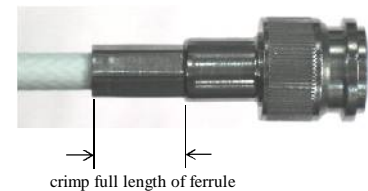

Figure 6 Shrink ATUM
- 10) Shrink the ATUM dual-wall shrink tubing (Fig 6) over the connector body and cable, start behind the coupling nut ~ .100" to ensure no interference with coupling nut function (Fig. 6).